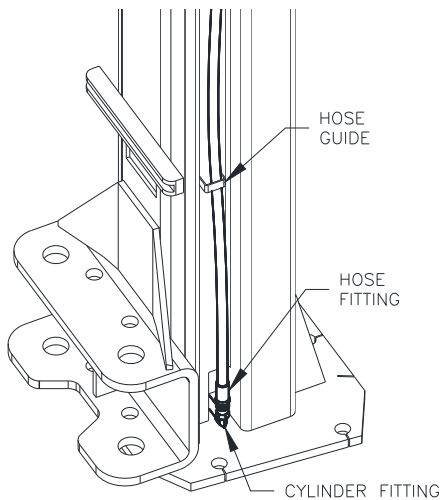

Fig 14 – Bottom Hose Connection
- 29) Attach Power Hose to Cylinder Fitting at the bottom of the Power Column as shown in **Fig 14** below. Repeat with longer Idler Hose and Idler Column. If lift is installed in the "Tall Height" setting, use Hose Extension and Hose Extension Fitting between Idler Hose and Cylinder Fitting.